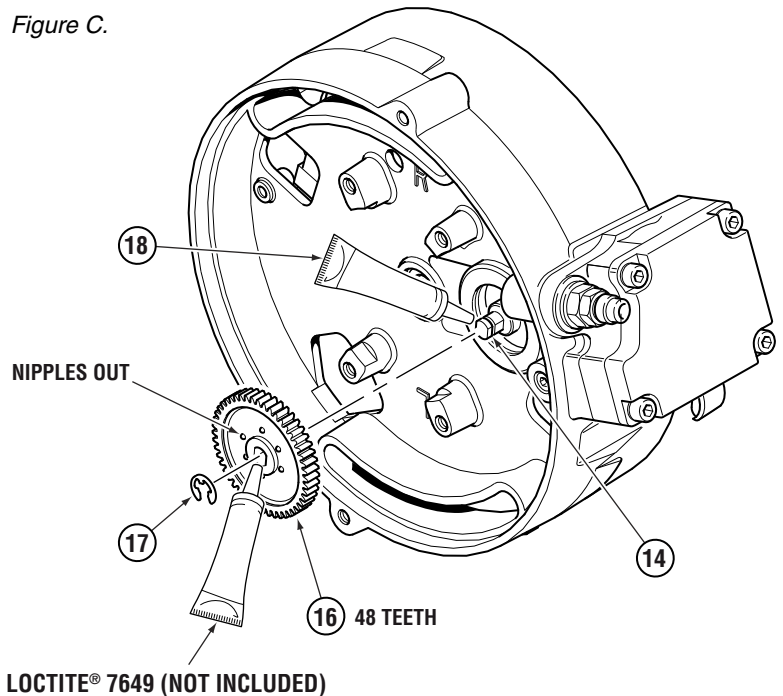

Figure C1. Compressor Gear.
- 1 Apply Loctite® primer 7649 (not included) onto the new motor gear (item 15) and compressor gear (item 16) drive hubs, and let sit for 3 minutes.
- 2 Apply Loctite® 620 (item 18) to the motor shaft as outlined in Figure B. Secure the motor gear (item 15) onto the motor shaft with a new retaining ring (item 17).
- 3 Apply Loctite® 620 (item 18) to the compressor shaft as outlined in Figure C. Orient the compressor gear (item 16) six nipples facing out as shown in Figure C1, then secure to compressor shaft with a new retaining ring (item 17).